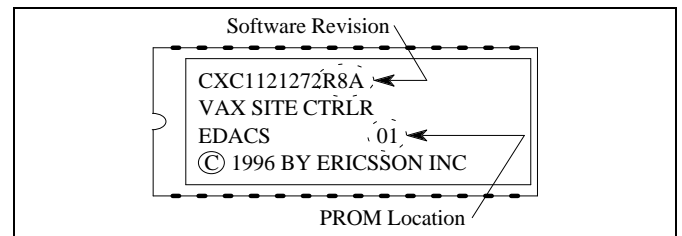

Figure 7 - Application Software PROM Label
A typical Application Software PROM label is shown in Figure 7. Each PROM in the set must be marked with the same software revision number, and the set must contain one PROM for each of the fourteen (14) PROM locations.